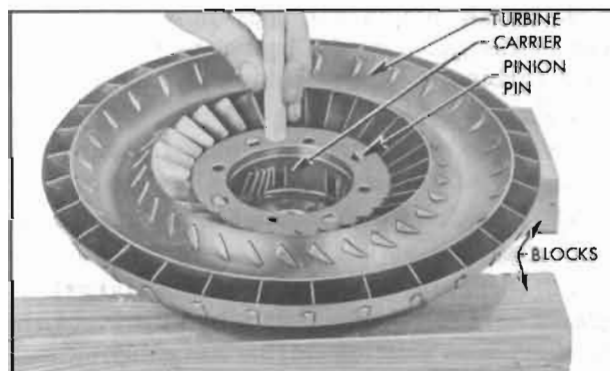

Figure 5-55—Installing Turbine on Carrier
7. Use a hammer and hardwood dowel or other soft punch to tap the turbine down over the carrier. Avoid distortion of turbine by using light blows applied midway between holes and alternated from side to side to keep parts square with each other. See Figure 5-55.